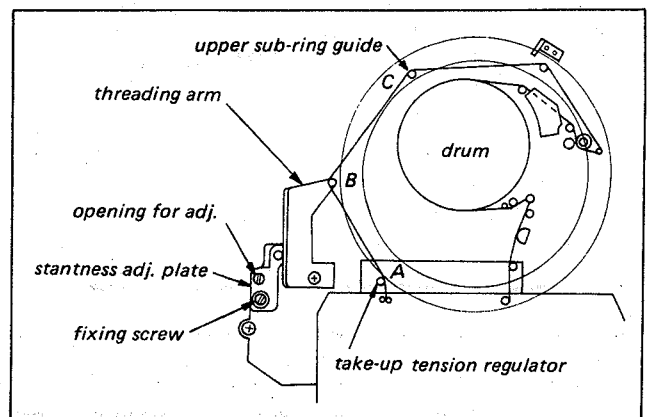

Fig. 6-13. FWD mode tape run adj. (FWD mode with tape)
2. Observe the surface of the running tape shown in Fig. 6-13 very carefully at three points of the Upper Sub-ring Guide, the Threading Arm and the Take-up Tension Regulator. Check to see amount of tape tension is exactly equal at tape top and tape bottom.
If not, slightly loosen the fixing screw shown in Fig. 6-13, and adjust gently the Slantness Adj. Plate using an eccentric screwdriver (Jig Ref. No. J-5).